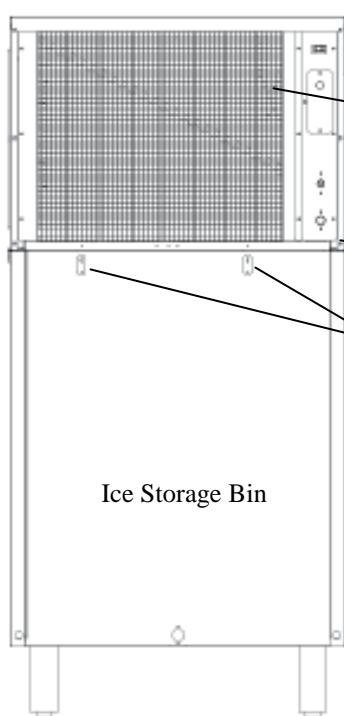
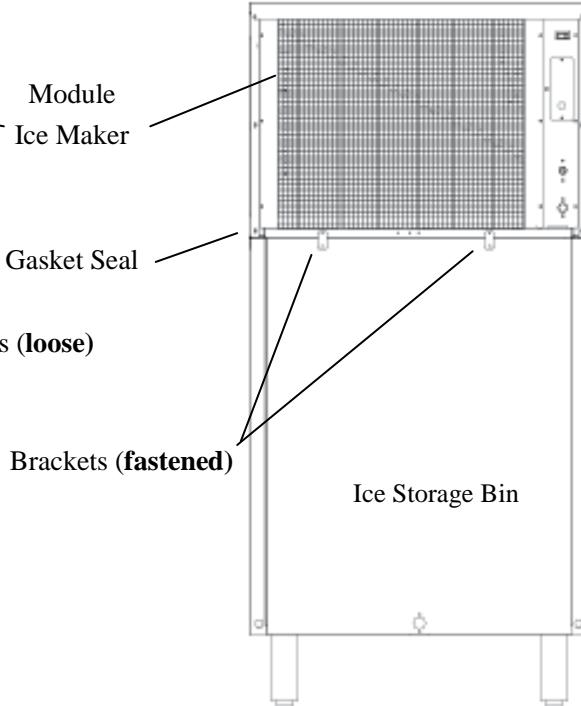

Fig.6
Fig.7
4. Rotate brackets at back of ice storage bin up and align them with the holes at bottom of ice-making unit (Fig. 6). Secure brackets in place with provided screws (Fig.7).